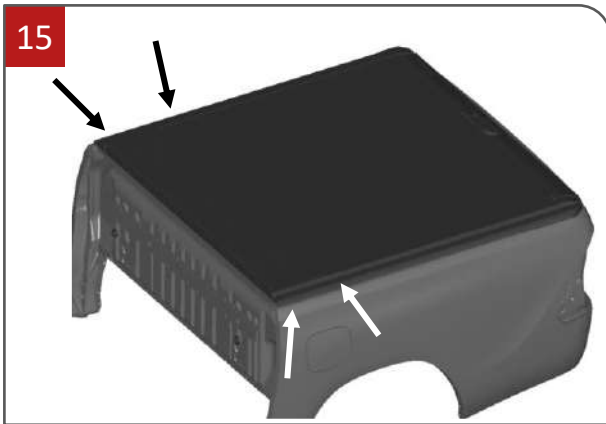

Figure 15
- Lift the preassembled Rollatop in the areas shown in Figure 15.